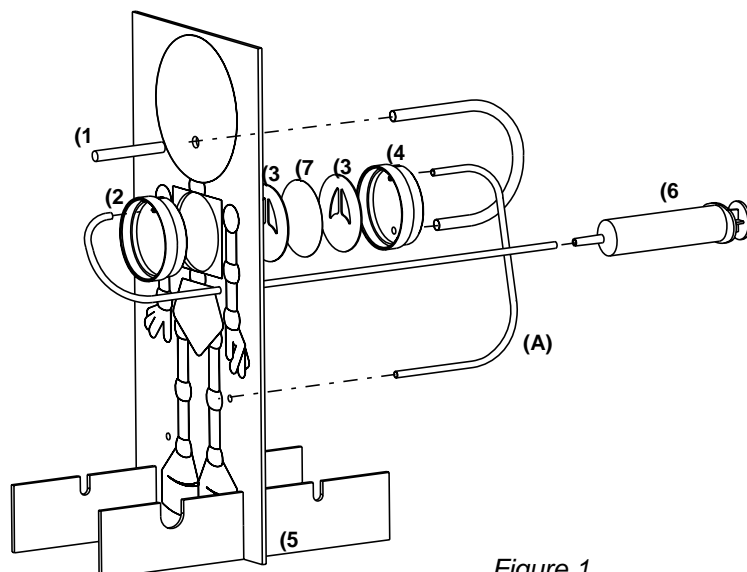

Figure 1
- First, locate the front **(2)** and back **(4)** covers of the lung chambers (see Figure 1).
- Attach the support panel to the two feet, in the slots, as shown in Figure 1.
- On the front side of the support panel (the side with the human model), press the front cover of the lung chamber **(2)** into the round opening provided. The alignment slot and the orifice are oriented towards the top (see Figure 1).
- Connect the flexible tubes, feeding them through the openings provided on the support panel (see Figure 1).